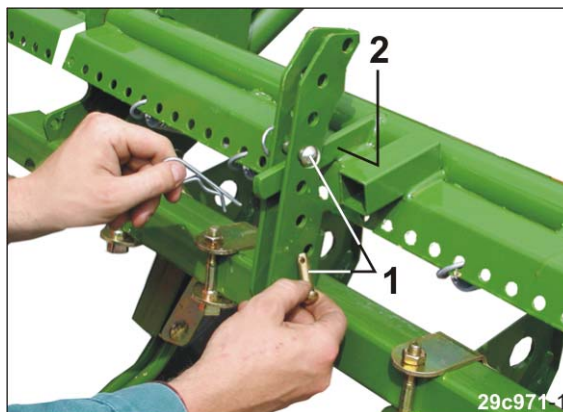

Fig. 137
3. Insert one pin (Fig. 137/1) below and above the stop (Fig. 137/2) into the adjuster segment and secure with linch pins.